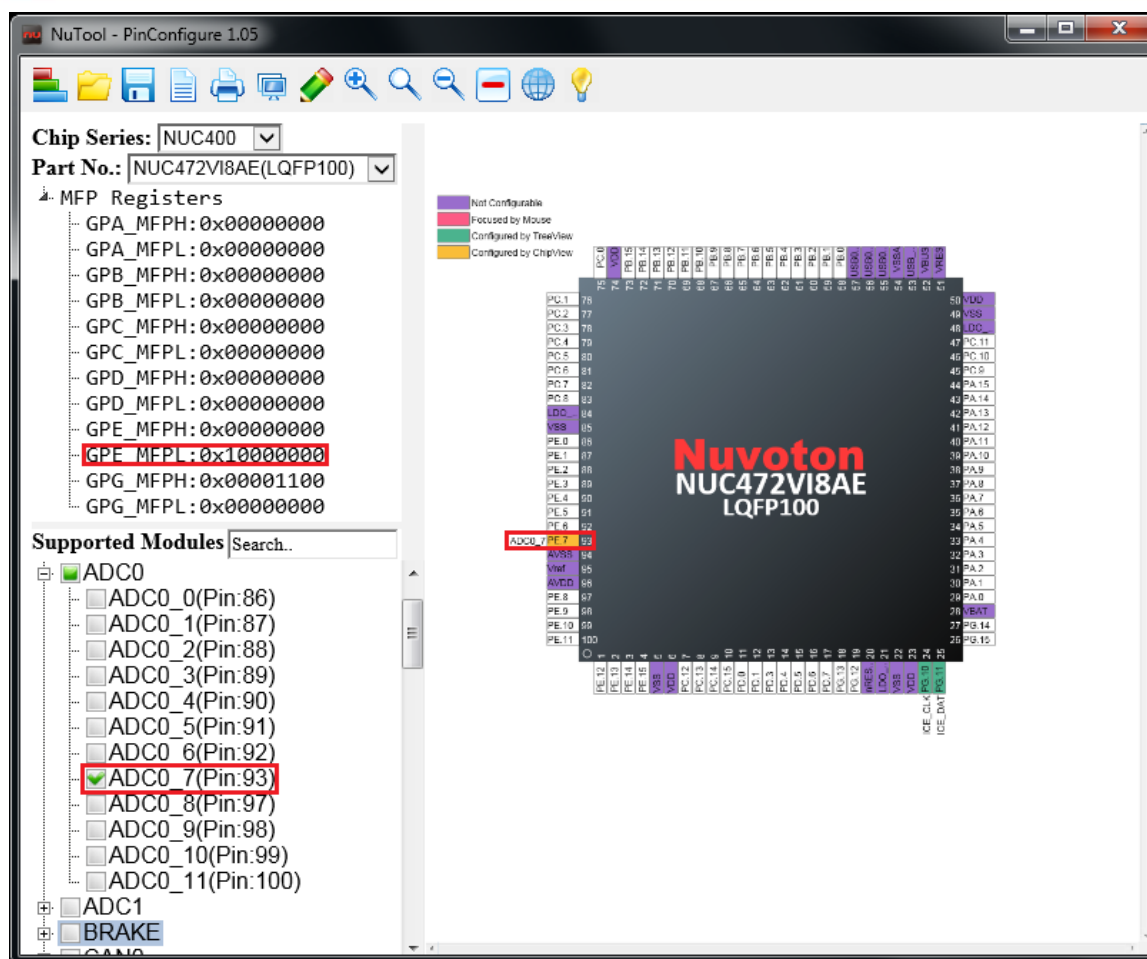

Figure 3-9 Results of Configuring ADC0_7 by the Individual Pin
2. Move the mouse cursor into the list and select the expected GPIO function and click on it. Configuring by the individual pin is accomplished. At the same time, the TreeView and the value of the MFP register will be updated correspondingly (referring to Figure 3-9).